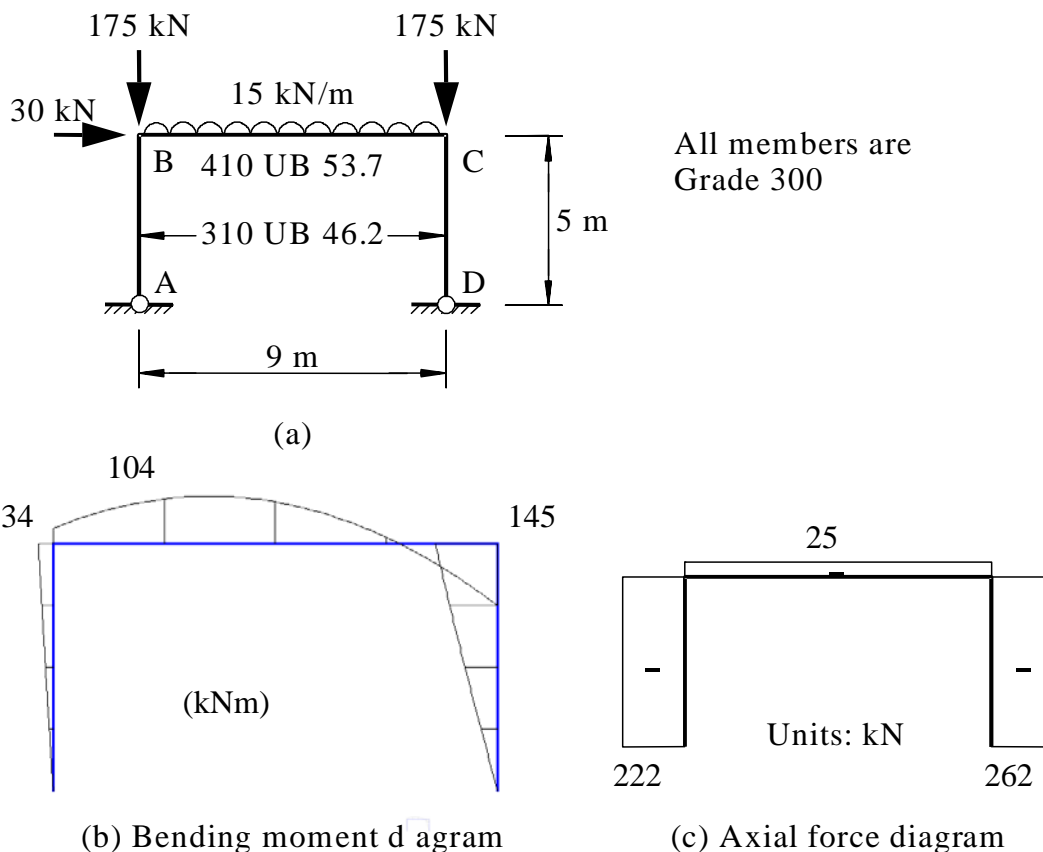

Figure 4
- a) Explain the difference between 1st order and 2nd order bending moments by considering the behaviour of the frame in Figure 4 below. For a typical frame such as this one, are second order effects likely to be more significant for a gravity only load case (eg $1.2G + 1.5Q$) or a case involving wind load? Explain your answer.
- b) A rectangular portal frame ABCD subjected to a design load combination is shown in Figure 4(a). All members are oriented such that the planes of the webs of the section are in the plane of the frame shown. The beam column connections are rigid, while the column base plate connections are pinned. The bending moment and axial force diagrams obtained by conducting a *second order elastic analysis* of the frame are shown in Figures 4(b) and 4(c), respectively. An engineer has already assessed the effective lengths of the columns for different types of buckling: